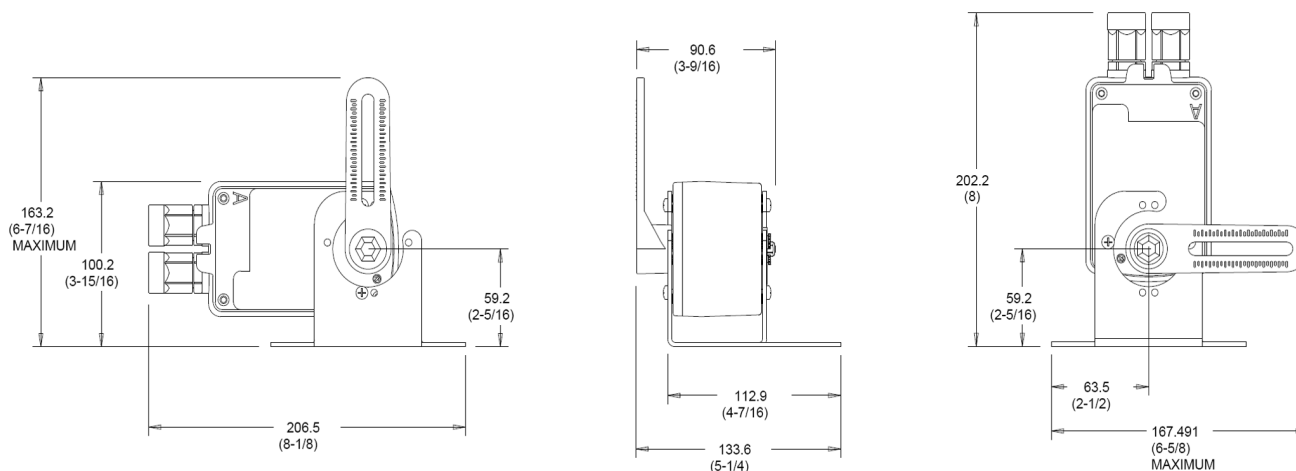
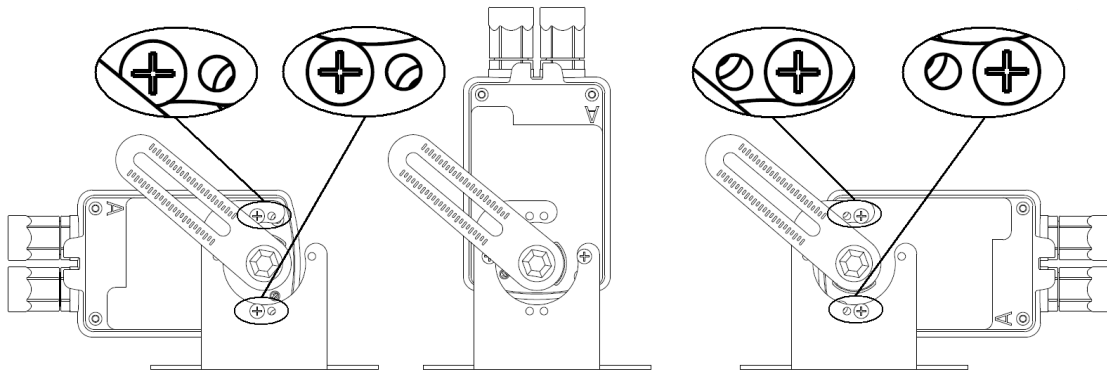

Figure 2: M9203-100 Remote Mounting Kit overall dimensions, mm (in.)
Figure 3: M9203-100 Remote Mounting Kit with actuator horizontal left, vertical, and horizontal right
See Figure 2 and Figure 3 for overall dimensions and proper mounting orientations.
The actuator has two general mounting positions, horizontal and vertical, but can be mounted in six different ways: horizontal left, vertical, and horizontal right (each with the option of side A or side B direction). See Figure 3.
5. Using the four #8 Thread Forming Phillips Screws, secure the actuator to the mounting bracket as shown in Figure 2 and Figure 3. Use the recommended torque of 1.7 to 2.3 N·m (15 to 20 lb·in). Note the location in horizontal mounting; the output hub of the actuator must be in the center of the bracket.